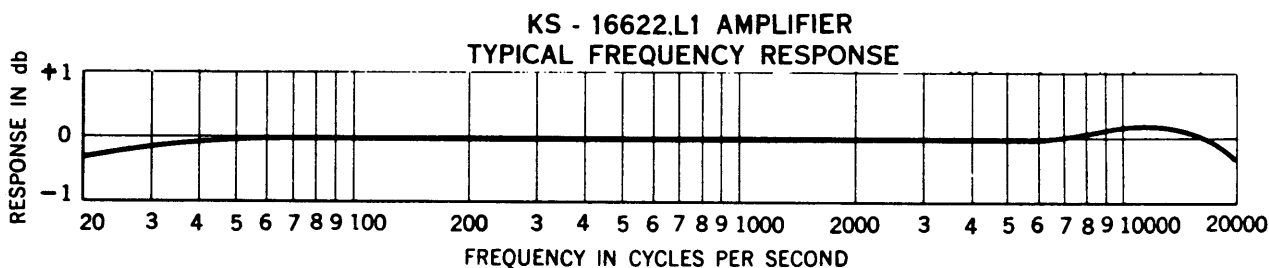

Fig. 4 - Frequency Response
where high quality transmission is required. This section is reissued to include Fig. 4 which was omitted in the previous issue.
6.01 Fig. 4 shows the typical frequency response of the amplifier.